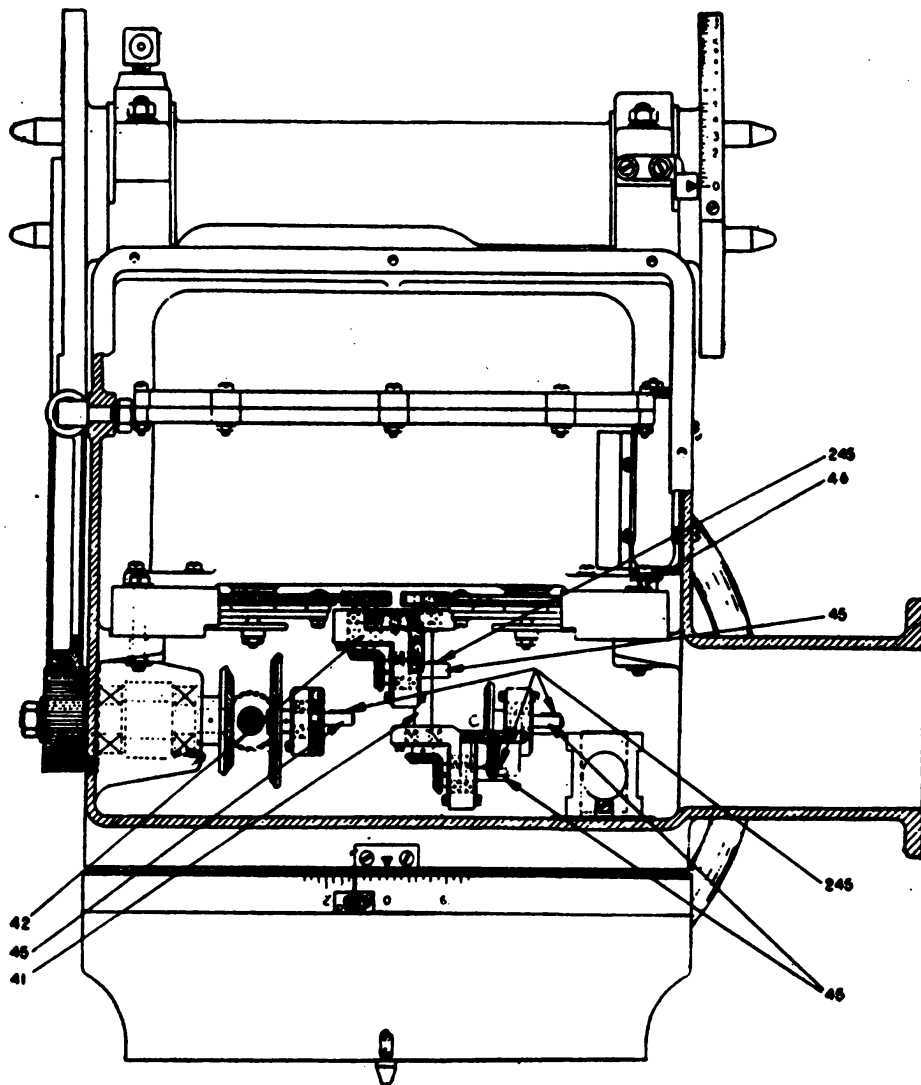

FIGURE 3.
8. Check corrector drive mechanism to see that there is no lost motion or binding. Should excessive lost motion be evidenced, the corrector drive mechanism should be thoroughly checked for loose, sheared, or missing taper pins or setscrews, particularly between the azimuth and elevation transmitter drives 41 and 42, respectively, figure 3, and the respective transmitters. Lost motion may also result from loose